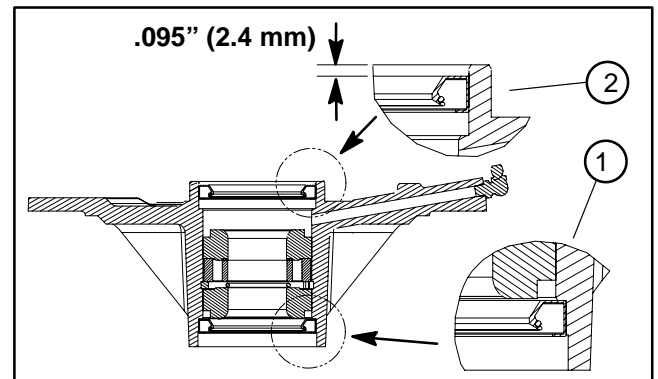

Figure 11
5. Install lower bearing and seal into bottom of spindle housing. **Note:** The bottom seal must have the lip facing out (down) (Fig. 11).
6. Slide spacer ring and inner spacer into spindle housing, then install upper bearing and seal into top of housing. **Note:** The upper seal must have the lip facing in (down) and be recessed into the spindle housing .095" (2.4 mm) (Fig. 11).